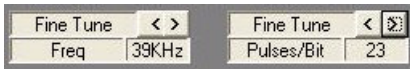

FIG. 86 AMX Library Files dialog - decreasing Frequency and Pulses/Bit values
- Try increasing or decreasing the frequency to the next value by clicking on the **Fine Tune** arrow buttons. Also, try adjusting the Pulses/Bit value. Click on **TEST** to re-test the function (FIG. 86).